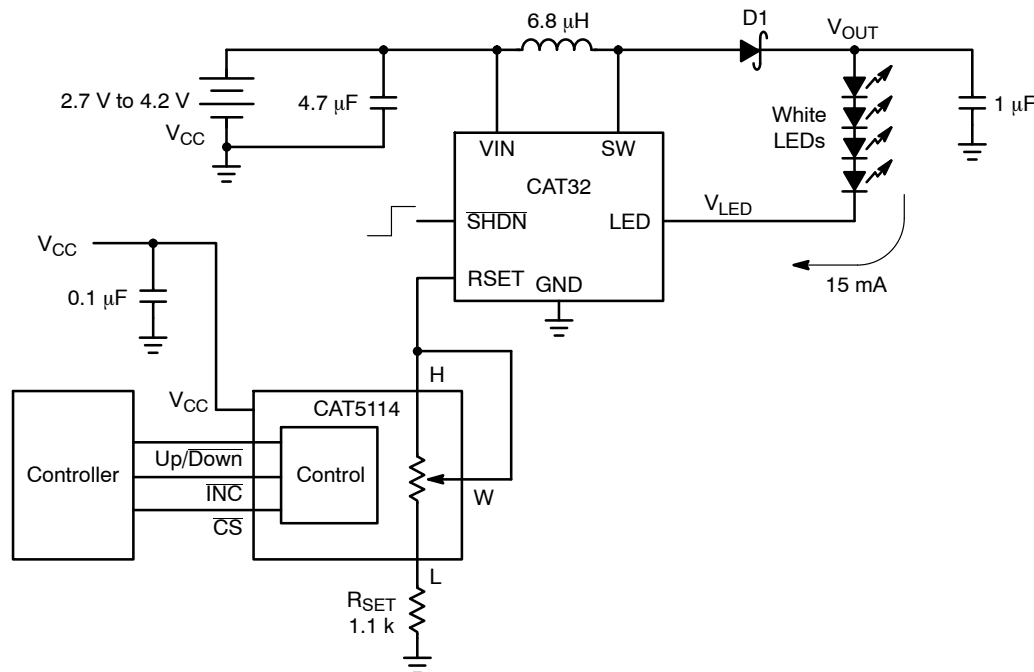

Figure 1. CAT32 LED Driver with CAT5114 Potentiometer Circuit Diagram
digitally programmable potentiometer is connected as a 2-terminal variable resistor, as shown in Figure 1. The potentiometer Wiper-to-Low resistor (between W and L pins) is connected in series with the R_{SET} resistor to adjust the LED brightness. This example uses a 32-tap linear potentiometer, the CAT5114, with an end-to-end resistance of 50 kΩ. The wiper terminal (W) position is controlled through a 3-wire interface. The INC input increments the wiper in the direction which is determined by the logic state of the Up/Down input. The CS input is used to select the device and also store the wiper position prior to power down.